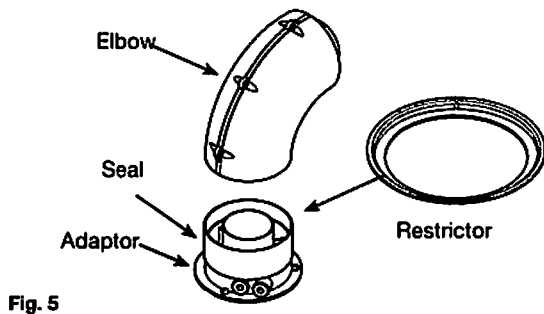

Fig. 5
IMPORTANT: If the equivalent flue length is greater than 1.5 m / 4.92 ft the restrictor **MUST** be removed from the adaptor (Fig. 5).
7. Take one of the rubber seals and position it on the boiler flue adaptor. Engage the flue elbow on the adaptor and pull the sleeve up so that it equally covers the joint (Fig. 5).